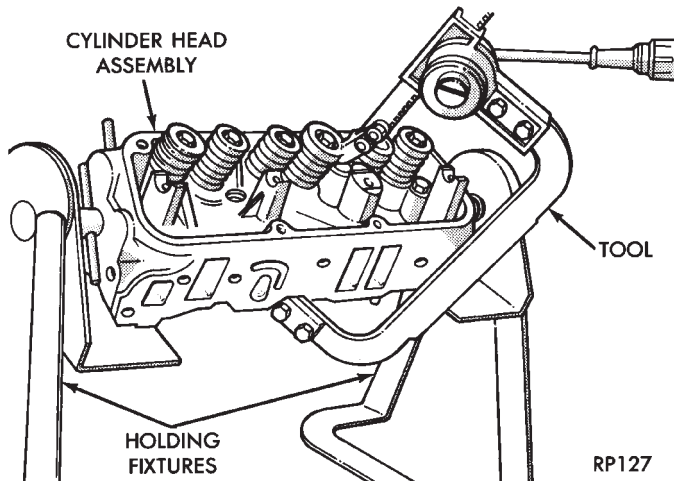

Fig. 16 Compress Valve Springs with Special Tool C-3422B with adapter 6412
(1) With cylinder head removed, compress valve springs using Valve Spring Compressor Tool C-3422-B with adapter 6412 as shown in (Fig. 16).
(2) Remove valve retaining locks, valve spring retainers, valve stem seals and valve springs.
(3) Before removing valves, **remove any burrs from valve stem lock grooves to prevent damage to the valve guides.** Identify valves to insure installation in original location.